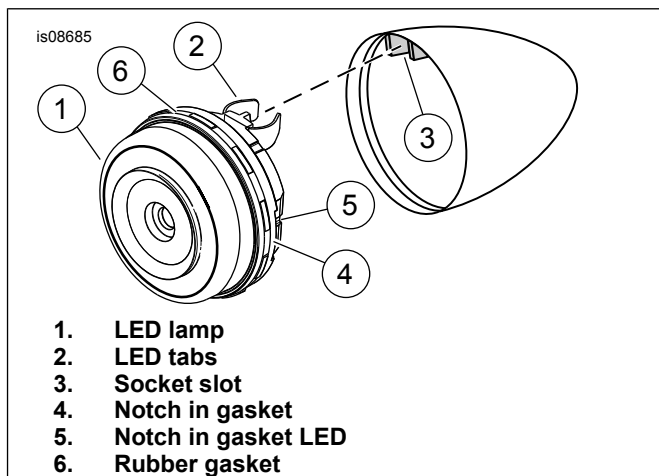

Figure 4. LED Tab and Lamp Housing
15. See Figure 4. Align notch on gasket (4) with notch on LED lamp (5).
16. Align tabs (2) with socket slot (3). Slide LED lamp (1) into housing keeping LED lamp even and square to housing. The LED lamp is held in place with friction from the rubber gasket (6).